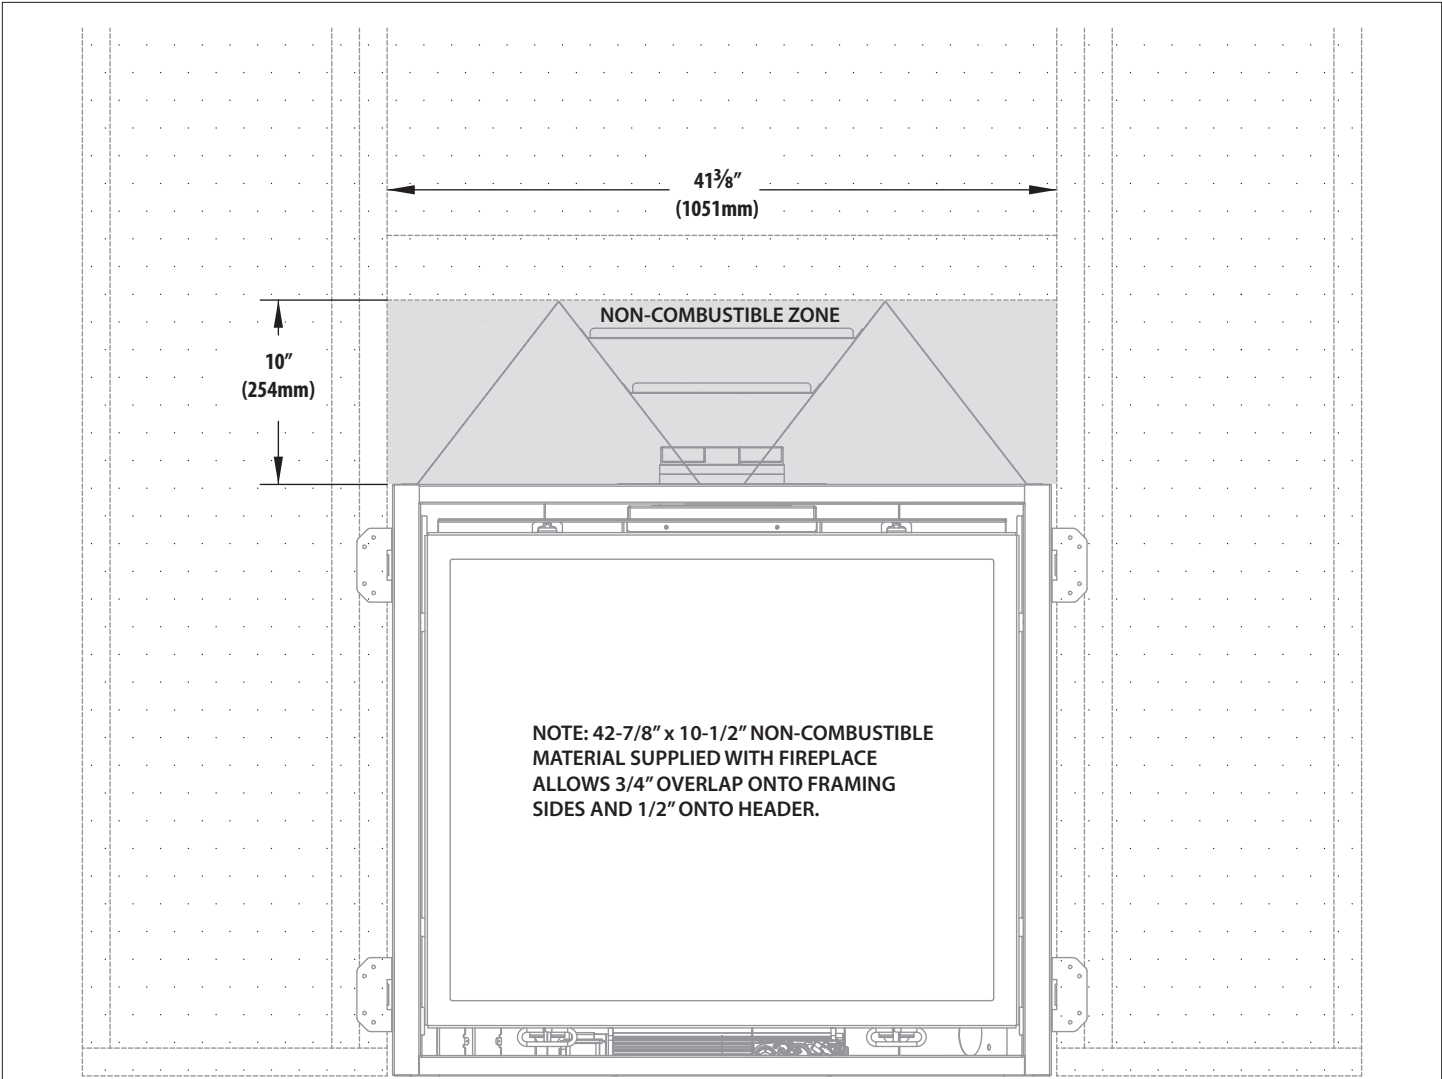

Figure 4.4, BAY-41 Non-Combustible Zone
- A 42-7/8" x 10-1/2" non-combustible material (board) is supplied with this fireplace. The non-combustible material (board) allows 3/4" overlap onto framing side and 1/2" overlap onto header. See Figure 4.4, BAY-41 Non-Combustible Zone on page 20.